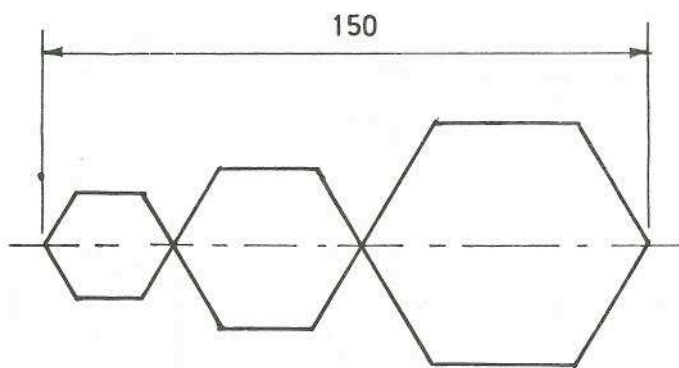

Fig. 8
- (b) Fig. 8 shows a series of three regular hexagons in which the sides of successive hexagons increase in the ratio of 3 : 2. Draw the three hexagons, showing clearly how the lengths of the sides are obtained.